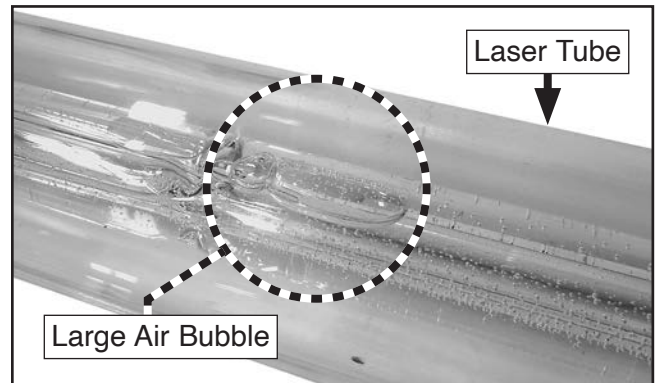

Figure 98. Example of large air bubbles when priming laser tube.
14. Once all large air bubbles are released, laser tube is primed with water (see **Figure 98**).